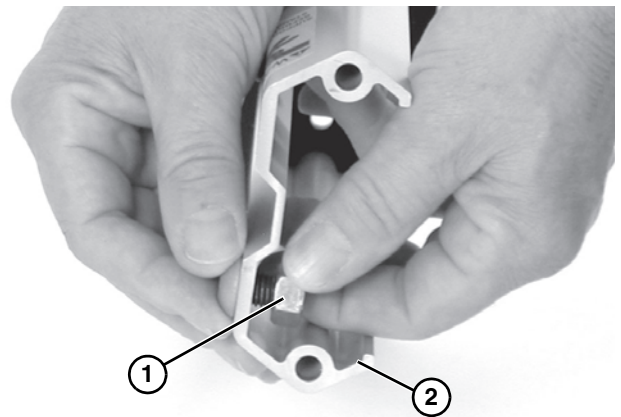

Figure 12
- Loosen (2) hex nuts (Figure 12, item 1) located on boot assembly (Figure 12, item 2).